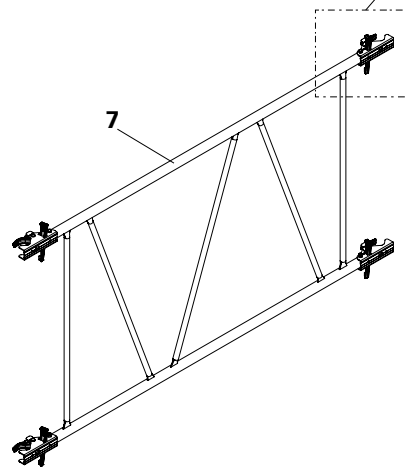

Fig. A2.06
Brace ADB (7) provides temporary stability for the ALPHADECK system during its erection. (Fig. A2.06)